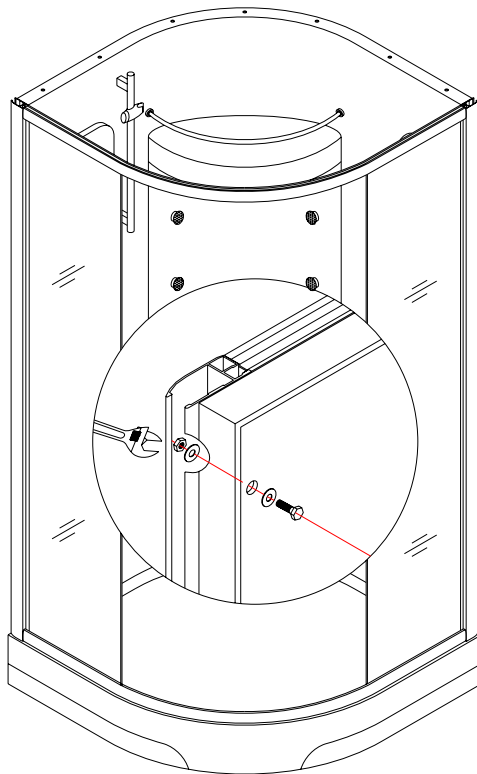

Fig 7
9. Clean the front threshold of the tray and apply a layer of silicone. Put the glass enclosure assembly onto the tray and adjust the position. Use M6×16 bolt sets to connect the vertical profiles and back panel (fig 7);